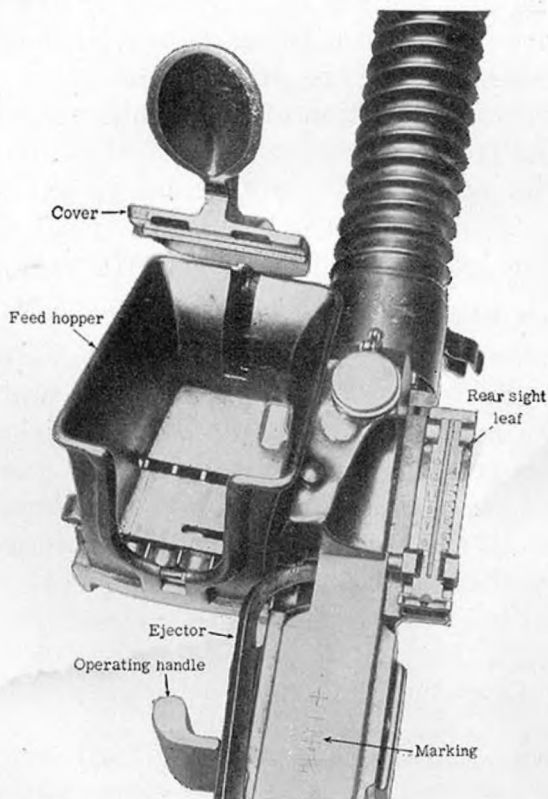

Figure 57.—Close-up of feed hopper (empty) of Model 11 (1922)
(1) The feed hopper (figs. 57 and 58) by which 30 rounds are loaded, consisting of six 5-round clips of rifle cartridges placed one on top of the other.
(2) The cutout section of the shoulder stock.
(3) The front and rear sights offset to the right.
(4) The marking $+ 一 年 式$ which is on top of the receiver. (This marking, which is read *Juichinen Shiki* from left to right,² means "11th year model.")